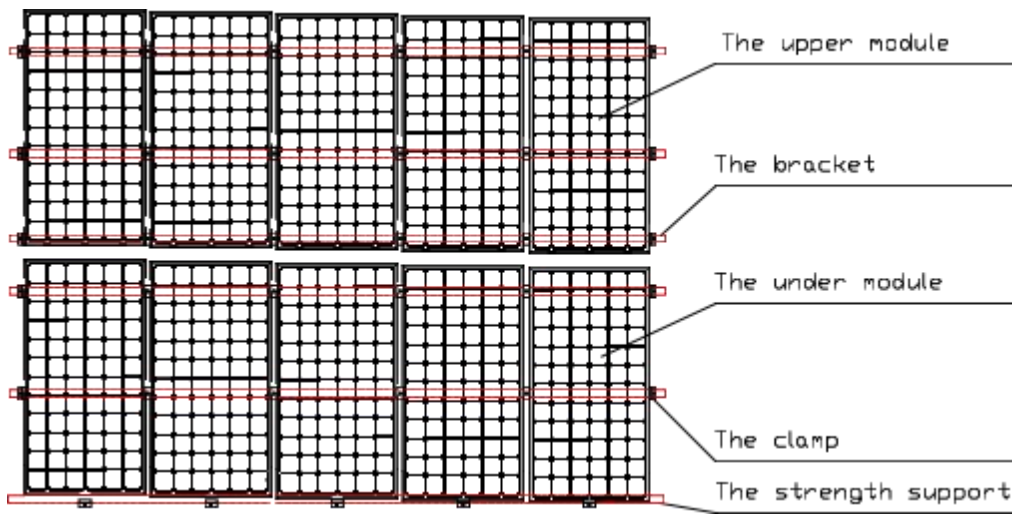

FIG 3 Schematic diagram of reinforcement mounting of module
- ▶ For the roof system installed in the area that ever experienced relatively heavy snowfall or snow cover, the customer shall reinforce the mounting system at the lower frame of the module, in order to prevent the lower frame from being pressed and damaged by the falling snow, and avoid the module damage due to melt snow freezing in daytime. CSUN suggests to selecting the support reinforcing mechanism shown in Figure 3.